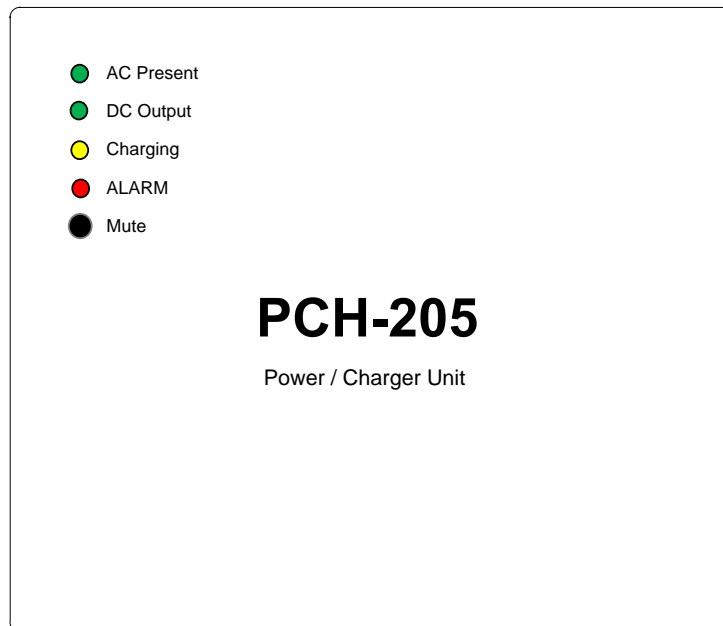

Figure 5. Location of Controls and Indicators
The basic device configuration includes the following controls and indicators: four LEDs indicating PS state and operation mode (see Figure 5) and an audio alarm acknowledgement button.
1. LEDs “AC Present”, “DC Output”, “Charging”, “ALARM” – are designed to indicate current operation mode (see Figure 5, Table 3).